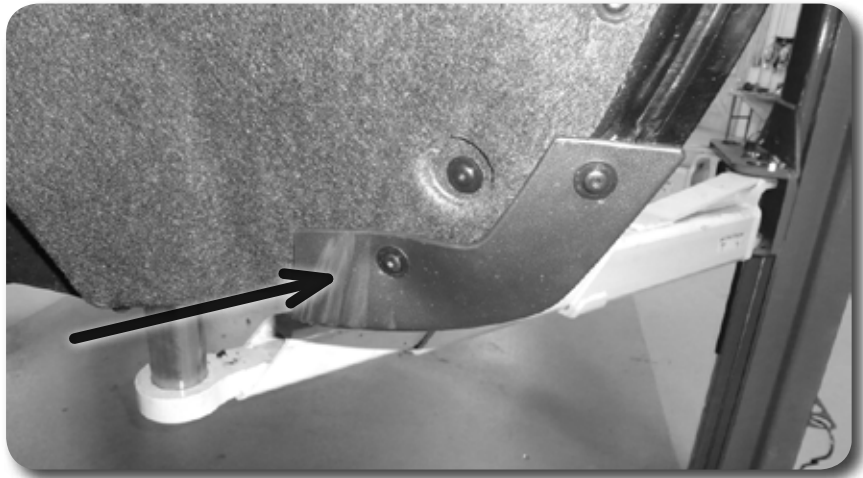

Figure 1A
2. Remove the plastic splash guard. (2 screws and 2 clips Chevrolet Models) Figure 1A & B. Leave the 2 clips in the body at this time. Figure 1C
This kit will gain ~ 5/8" of clearance at the location noted with the arrow in Figure 1A. If additional clearance is needed at a different location additional trimming may be required that is not outlined in these instructions.